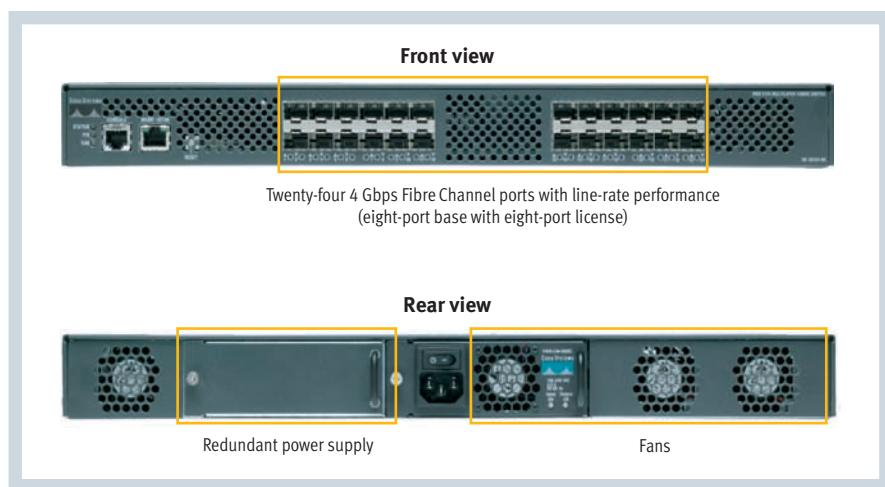

Figure 2. Front and rear views of the Cisco MDS 9124 switch
- **High port density:** With 8–16 ports or 16–24 ports in each 1U rack-mountable switch, Dell SMB SAN solutions are designed to fit into small offices and minimize power and cooling requirements (see Figure 2). The switch's density/price ratio provides cost-effectiveness while allowing administrators to add to the SAN as needed.